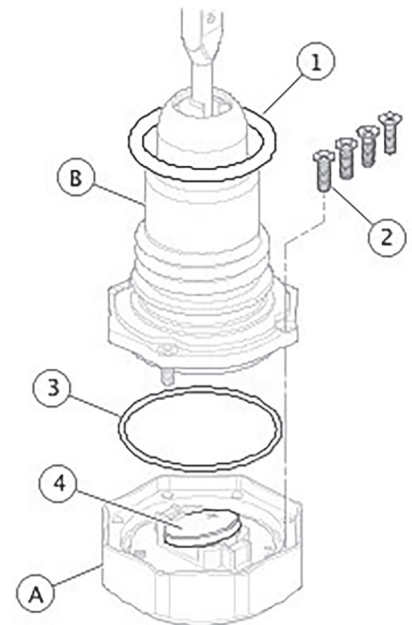

Figure 3. Dipstick Service Kit
See Figure 3. Be careful when separating the upper display body (A) and lower dipstick assembly (B).
Certain models require purchase of a Dipstick Service Kit (Part No. 91800066), available from a dealer. This Kit includes O-rings, screws and a replacement CR 2032 battery (see Figure 3 and Table 1).
See Figure 3. Mark the upper display body (A) and lower (B) dipstick components before disassembly, so they can be assembled in the same rotational alignment. Be careful when separating the two components.